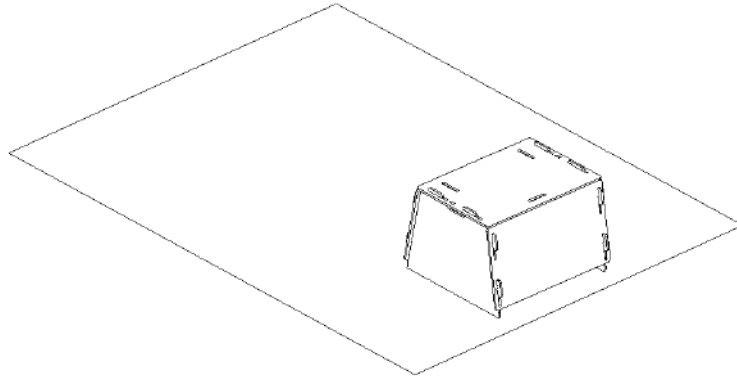

Figure 161: Scanner stand resting on a pattern.
2. Align the scanner stand with the rectangle marked on the pattern, paying close attention to the orientation of the slots in the stand cover (see Figure 161).